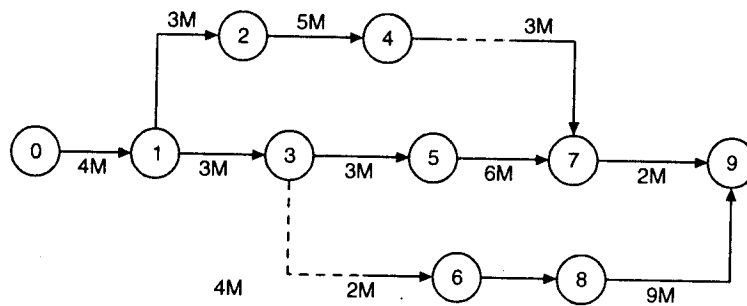
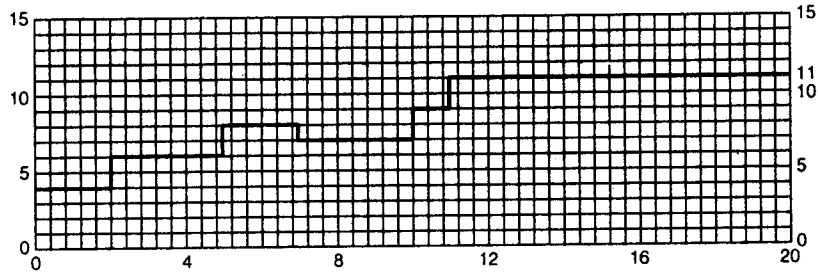

Fig. 25.71
Fig. 25.72
**Step 5.** The resource histogram for above network (Fig. 25.71) is drawn in Fig 25.72, which indicates that maximum manpower required is 11 men. Hence with new schedule, the same project can be accomplished in the same duration of 20 weeks by 11 men as compared to 15 men for the previous schedule.